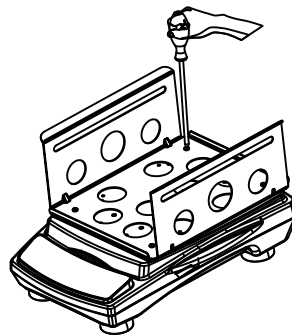

figure 7
1. Fasten Universal Platform with Adjustable Bars onto the platform as shown in the figure 7.